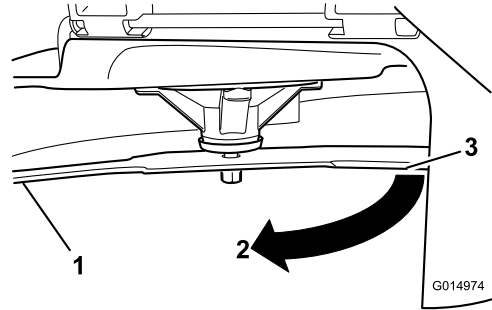

Figure 51
4. Rotate the same blade 180 degrees so that the opposing cutting edge is now in the same position (Figure 51).